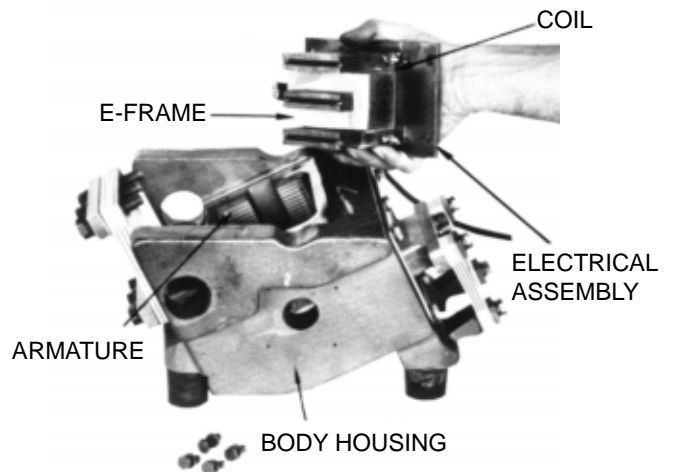

FIGURE 8
3. Remove the bolts securing the electrical assembly to the body housing and lift the assembly out of the body housing, (see Figure 8).